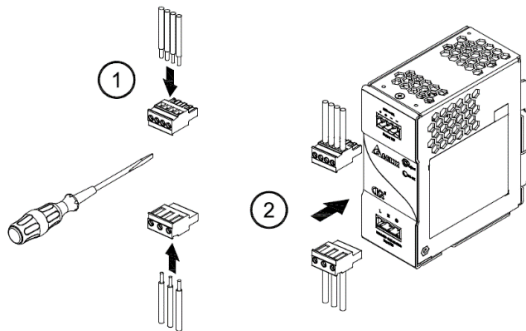

Fig. 3.1
**CAUTION:** Must tighten wire to housing (Fig. 3.1) before plugging into the terminal block connection (Fig. 3.2).